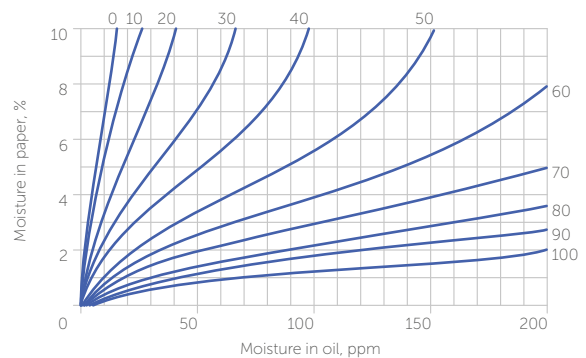

Figure 4. Moisture Equilibrium curves\* (Oomen)
3. If PPM and oil temperature are known some curves exist (see Oomen curves figure 4) to link the water PPM in oil and the water content in the paper. But these curves are only really valid at equilibrium which is in general never reached on a running transformer.